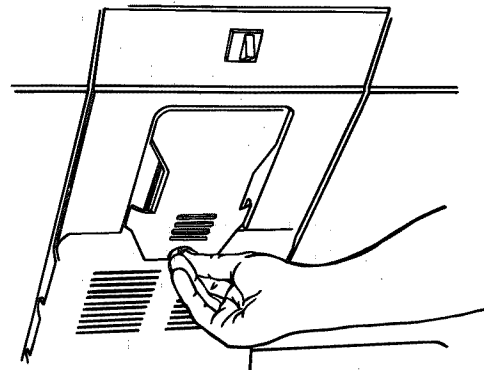

Figure 41
- g. Snap light cover back in place and return screw back to center back of light cover. See Figure 41.